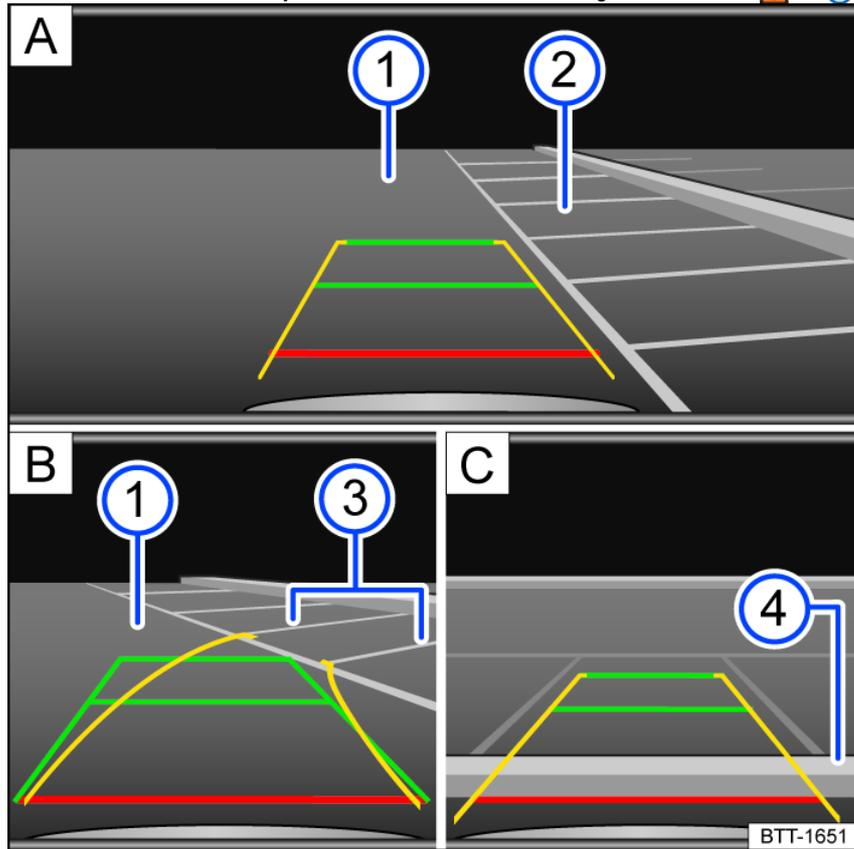

Fig. 138 Screen display in the Infotainment system: parking with the Rear View Camera system.
Key for *fig. 138*:
- Position your vehicle in front of the parking space *fig. 138* **A** 2).
- Steer so that the yellow lines lead into the parking space. The green and yellow lines must align with the side boundary lines *fig. 138* **B** 3).
- Stop when the red line reaches the rear boundary *fig. 138* **C** 4).